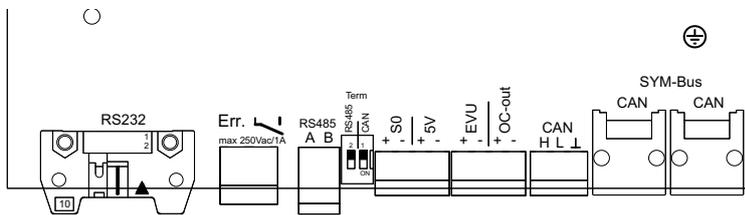

Figure 16: Interface terminals
3. Connect the connection cables to the corresponding connection terminals (see Figure 16 on page 27).